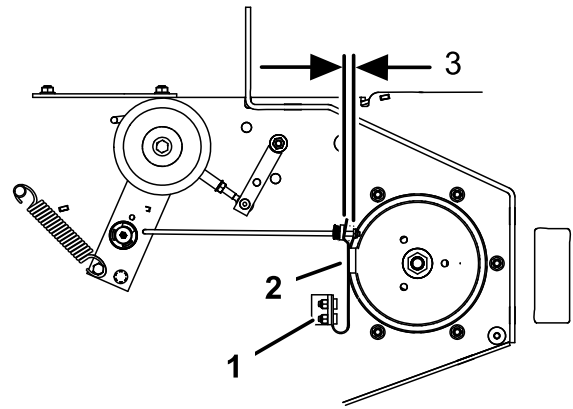

Figure 58
3. If necessary, adjust the spring mounting bolts so that the blade brake pad rubs against both sides of the pulley groove (Figure 58).
4. Adjust the nut at the end of the blade brake rod until there is 3-5 mm (1/8-3/16 inch) between the nut and spacer (Figure 58).